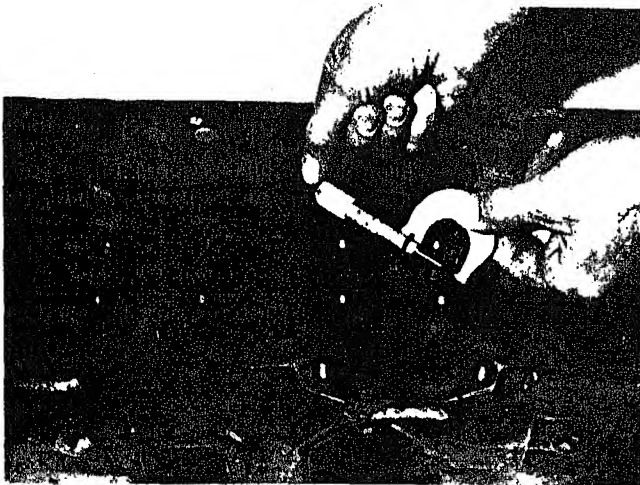

Fig. 2-1-5. Checking crosshead guide
- Set inside micrometers 0.0002 in. [0.0051 mm] larger than worn replacement limits shown in Table 2-1-1 and use as "no-go" gauge to check wear. Fig. 2-1-5.